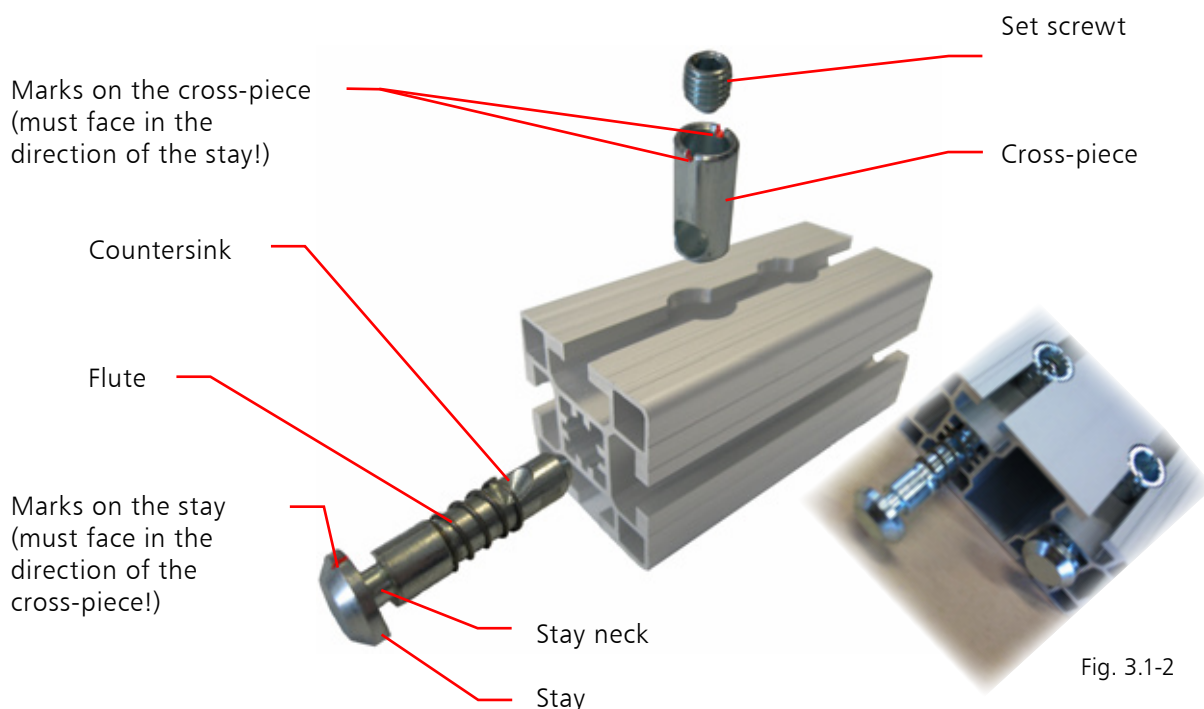
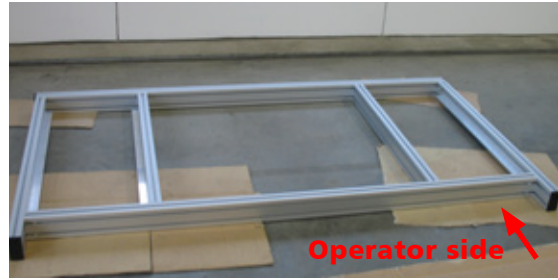
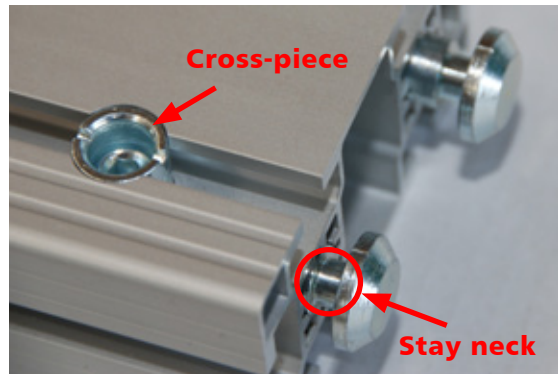

Fig. 3.1-2
Fig. 3.1-3
Fig. 3.1-4
Step ② Before starting to assemble the frame base **A1** (Fig. 3.1-3), attach all the profile connectors to the locations provided for them in the frame base profiles. There should be 4 profile connectors remaining for the side stands of the universal wall. Please ensure that the countersink faces the cross-piece. This is indicated by the marks on the stay (Fig. 3.1-2). The set screw in the cross-piece is now screwed in slightly with the appropriate Allen key. In so doing, the stay is pushed automatically into the profile. It is important that the neck of the stay is still visible (Fig. 3.1-4) in order that it can be inserted later into the guide grooves (Fig. 3.1-5). When screwing it in, it may be necessary to press the stay lightly against the cross-piece.
Please ensure that the countersink faces the cross-piece in this case as well. This is indicated again by the marks on the stay (**Fig. 3.1-2**). The set screw in the cross-piece is now screwed in slightly with the appropriate Allen key. In so doing, the stay is pushed automatically into the profile. It is important that the neck of the stay is still visible in order that it can be inserted later into the guide grooves (**Fig. 3.1-15**). When screwing it in, it may be necessary to press the stay lightly against the cross-piece.